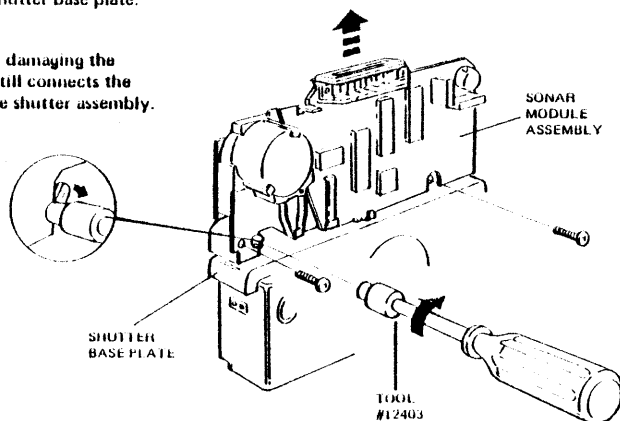

FIGURE 4-11
2. Reattach sonar module assembly to top of shutter front housing and to shutter base plate (see Figure 4-11). Replace the two 5/16-inch brass screws at bottom of assembly, but keep loose to allow meshing of gears.
3. Press sonar assembly into shutter assembly, meshing second idler and first idler gears. Lock adjustment cam (see Figure 4-11) and tighten two brass screws. Remove Tool #57 and tape from focus wheel.
3. Separate sonar module assembly from shutter base plate (see Figure 4-11). At this point, the flex is still attached to the shutter P.C. board and flash socket.